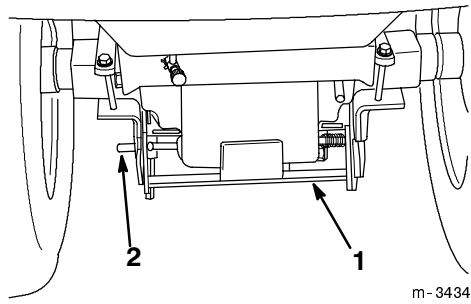

Figure 13
1. Press the release button (Fig. 13) on the rear Attach-A-Matic to open the latches.